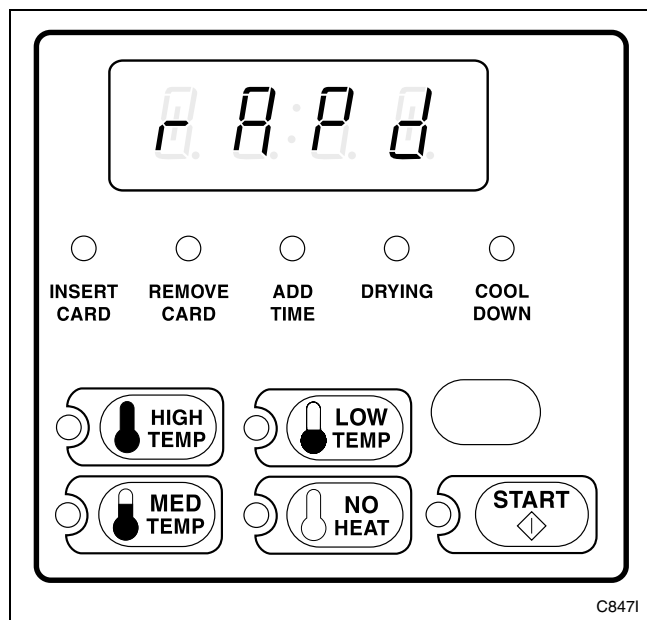

Figure 7
4. The VFD will show “rAPd”. Refer to *Figure 7*.